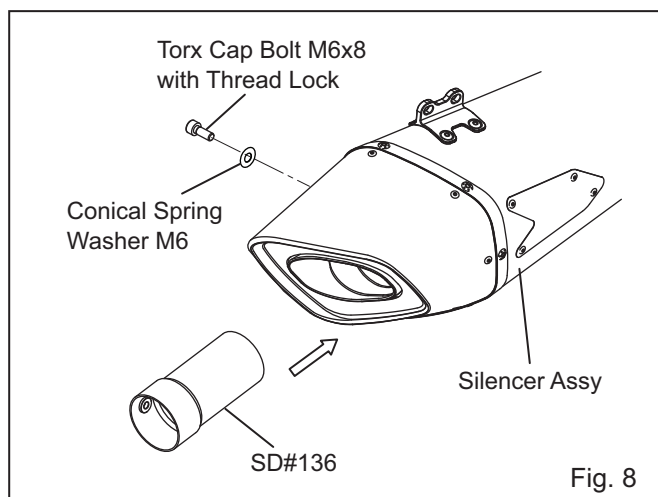

Fig. 8
- 9) Install SD#136 with Conical Spring Washer M6 and Torx Cap Bolt M6x8 Thread Lock if necessary. (See Fig. 8)